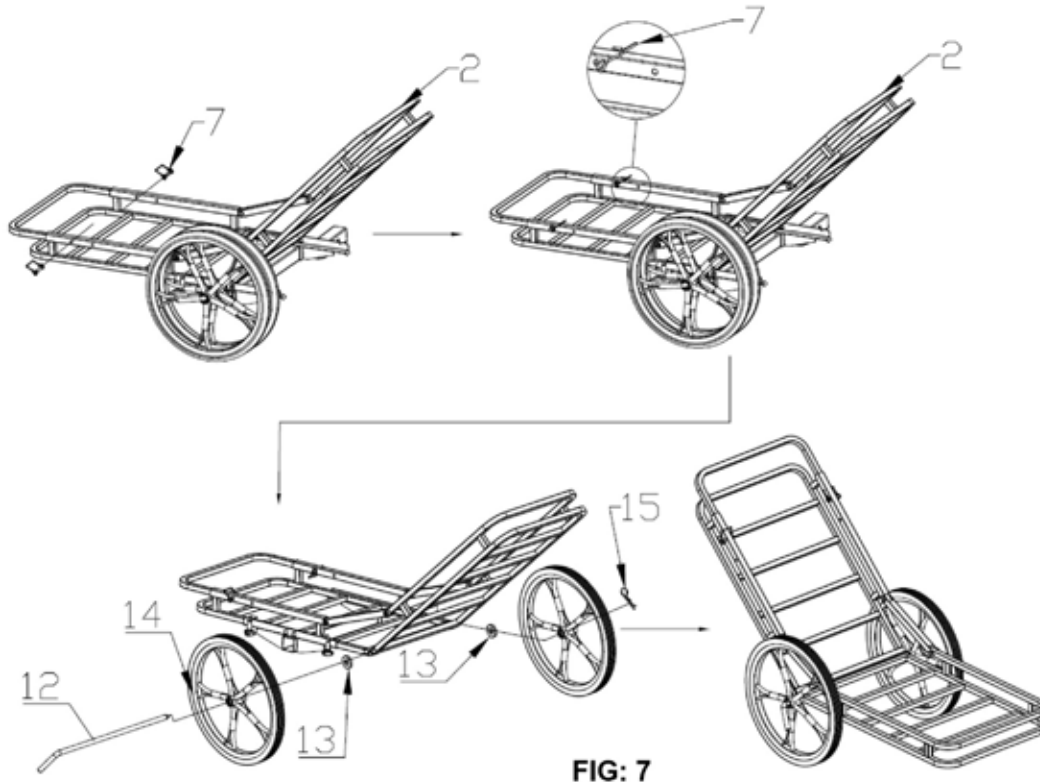

FIG: 7
7. The following steps are from carrier to the trolley. Loosen the bent pin, clamp the hand wheel, rotate bending pin to 90 degrees as loosen state, pull the square of the fixed the square pin (2 Pcs), turn up the right carrier frame, the U-tube handle stretched out automatically from the left carrier frame, and adjust the U-tube handle after spinning in place, insert and fix the square pin (2 Pcs), pull out the long bent pin, then move out the carrier frame until see the square tube in the middle of the frame. Connect two solid rollers (2 Pcs) with long bar bent pins, fix with M3.8 Split pin on the other end, and move the frame again until the wheel hits the ground. See FIG 7.